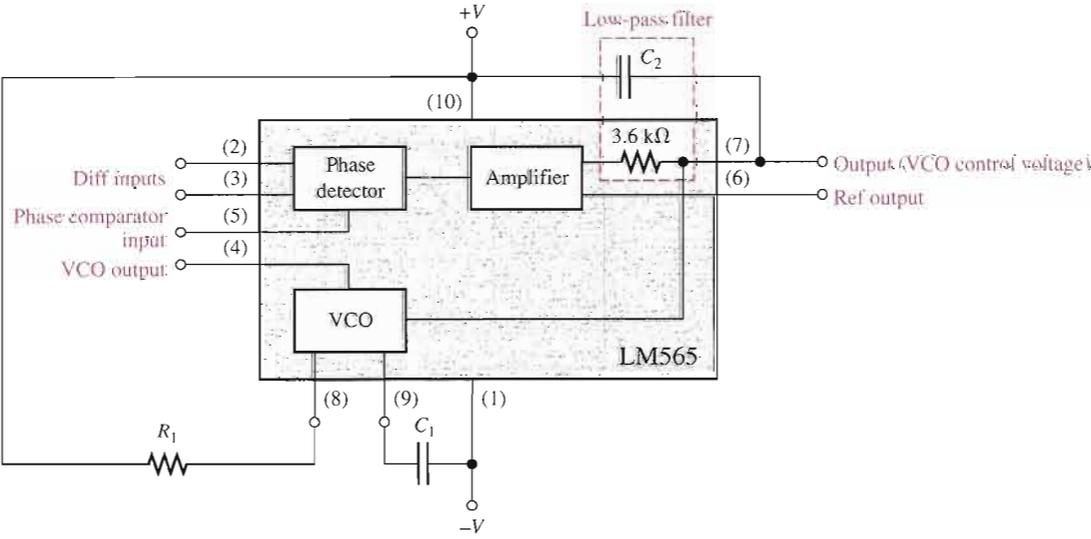

**FIGURE 17-49**
**Capture Range** Assuming the PLL is not in lock, the range of frequencies over which it can acquire lock with an incoming signal is called the **capture range**. Two basic conditions are required for a PLL to acquire lock. First, the difference frequency ( $f_o - f_i$ ) must be low enough to fall within the filter's bandwidth. This means that the incoming frequency must not be separated from the nominal or free-running frequency of the VCO by more than the bandwidth of the low-pass filter. Second, the maximum deviation,  $\Delta f_{max}$ , of the VCO frequency must be sufficient to allow  $f_o$  to increase or decrease to a value equal to  $f_i$ . These conditions are illustrated in Figure 17-49; and when they exist, the PLL will “pull” the VCO frequency toward the incoming frequency until  $f_o = f_i$ .